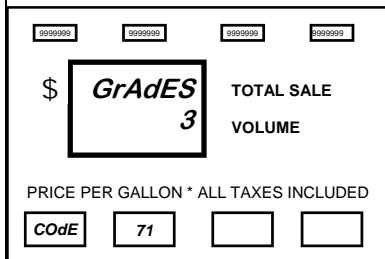

Figure 7.2
3. Once **ENTER** has been pressed the number of grades appears in the main display. The default setting is for 3 grades per side of the dispenser. See Figure 7.2.